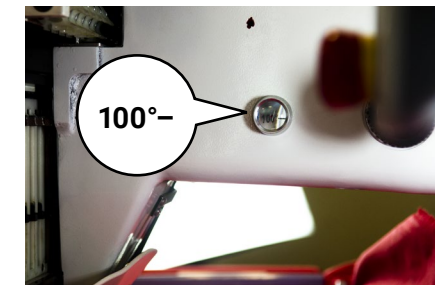

Figure 119
2. On the right side of the machine, you will find a window that displays the degree the machine is aligned to. **See Figure 119.**